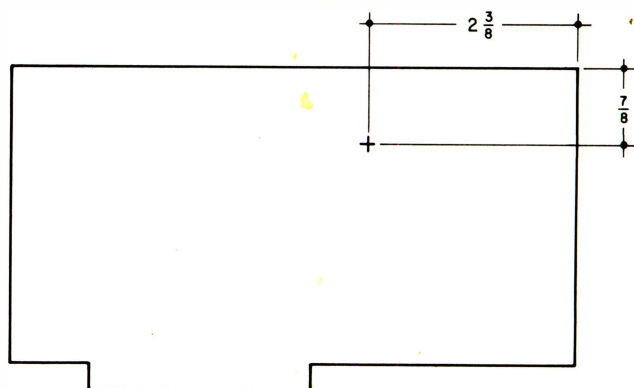

Figure 1. Feedthru Location - A17 Board
5. Drill (7/32") (5.5 mm.) hole in location shown in Figure 1. **CAUTION:** Start with a small size drill and enlarge hole in steps to prevent drill from seizing.